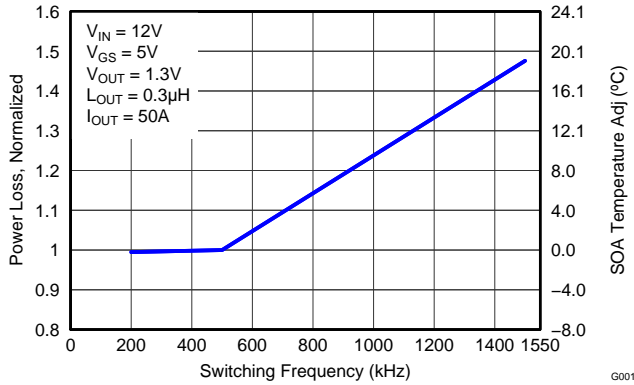

Figure 6. Normalized Power Loss vs Switching Frequency
- Normalized Power Loss for switching frequency ≈ 1.15 (Figure 6)
- SOA adjustment for switching frequency $\approx 6.0^\circ\text{C}$ (Figure 6)